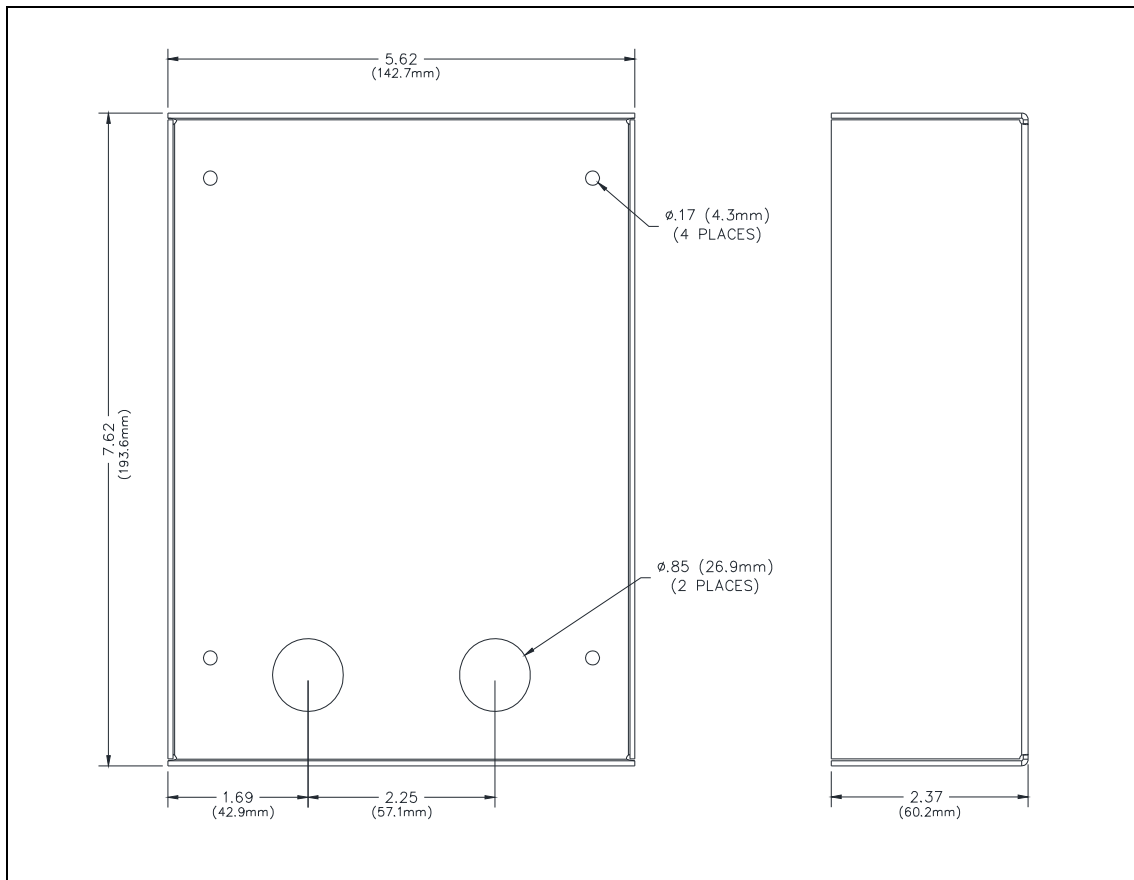

Figure 17. Models 276-712BH/-712BHAC Dust Cover Detail
2. Remove the tapered plug(s) from the cable entry holes and feed all cabling into the dust cover (see Figure 17).